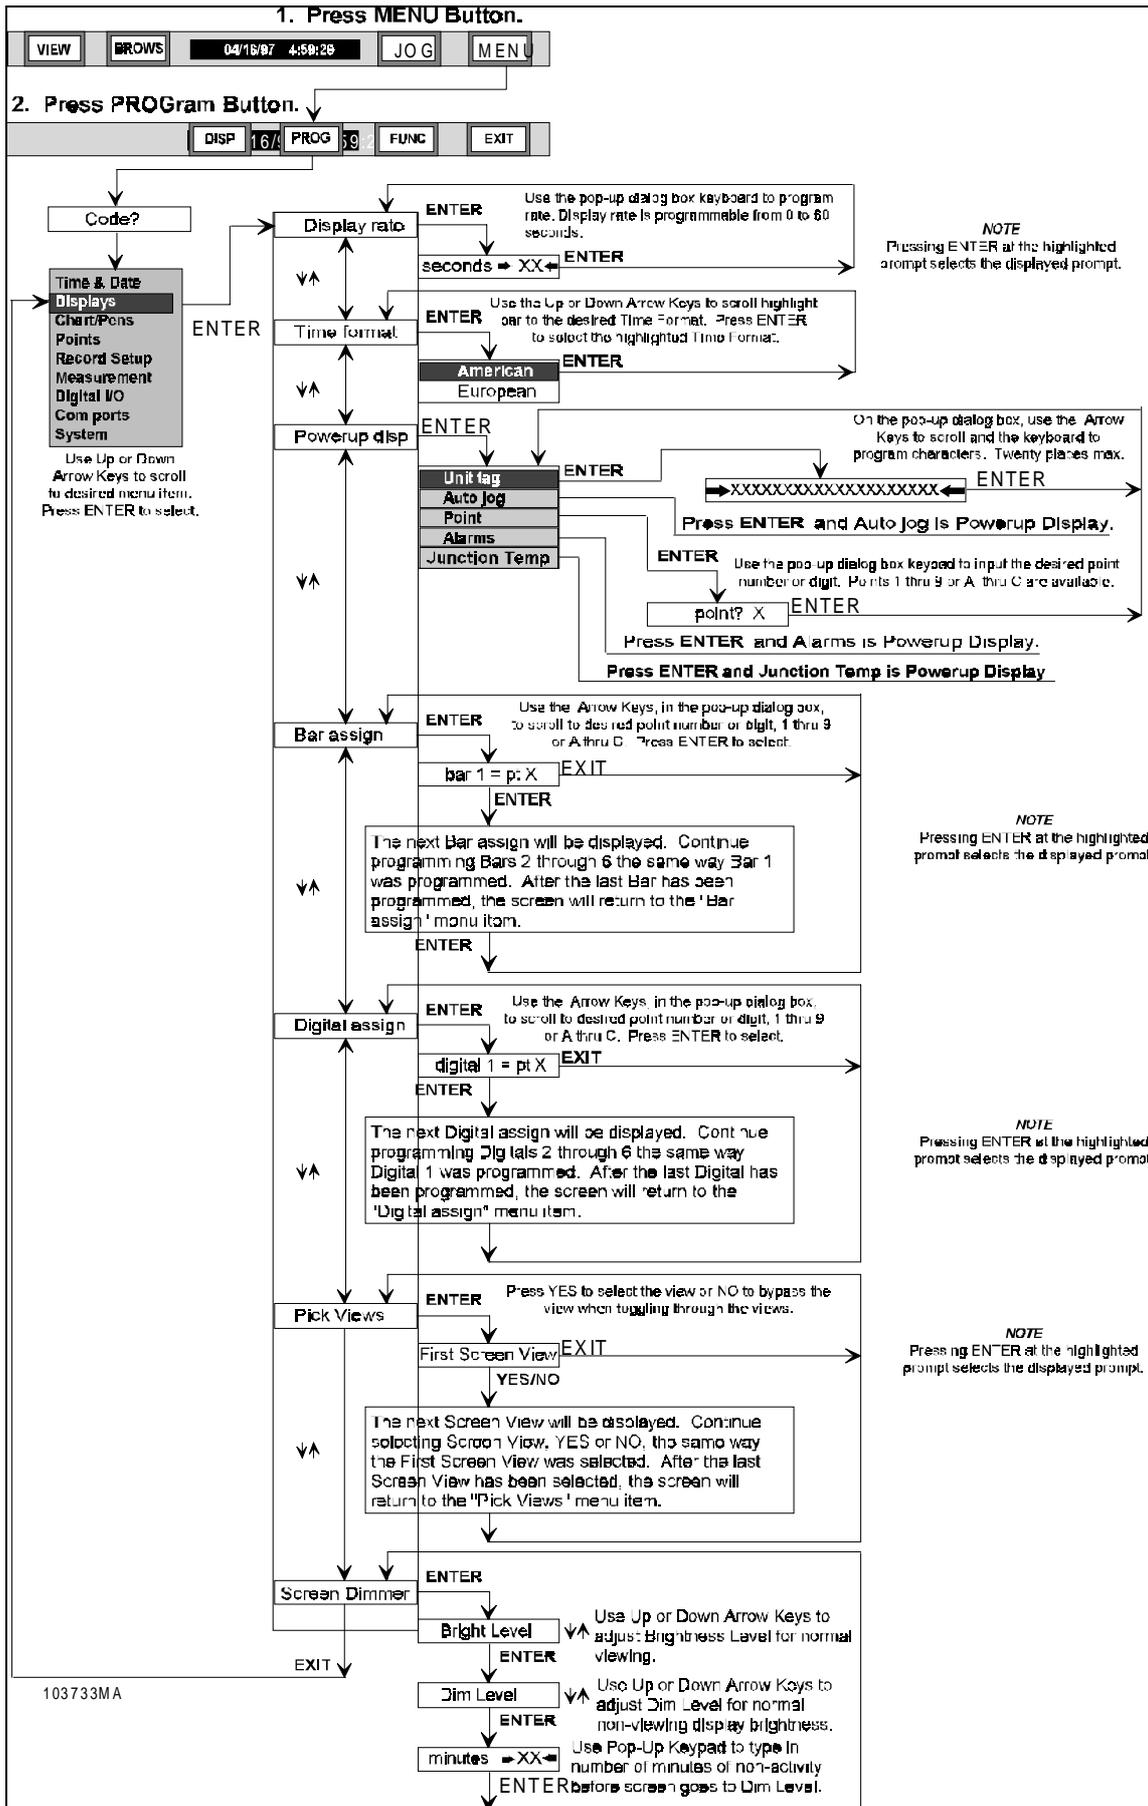

Figure 4-6 Displays Menu Item Programming Flow Chart
The Display Rate determines the time lapse between consecutive display updates in the Status Line. The display rate controls the AUTO JOG function jog rate and the display update of a single point or alarm being displayed. The display rate is programmable from 0 to 60 seconds in one-second intervals. The factory default display rate is one second. Follow the procedures below and the programming steps on the Displays Setup Menu Flow Chart, Figure 4-6, to program the display rate. These programming steps are discussed in menu order.
4.4.5 Powerup Display. The unit display at powerup may be changed to one of five different displays, Unit Tag, Auto jog, Point, Alarms, or Junction Temperature. Refer to Figure 4-6 to see the different powerup displays shown graphically. These different types of displays are as follows:
B. Autojog -The Autojog Power Up display jogs each programmed point, with the point status and value, at the programmed display rate which can be 1 to 60 second intervals, programmed in the Display Program Menu - "Display rate". To program the powerup display to Autojog, follow the instructions below and refer to Figure 4-6.
C. Point -The Point Power Up display allows a programmed point to be displayed as the default Status Window value. The point number programmed, the current value of that point, and the engineering units will be displayed. If the point is in alarm, the value of the point in the display will flash. Follow the instructions below and refer to Fig. 4-6:
D. Alarms -The Alarms Power Up display will jog all points in alarm at the programmed display rate. If all points are in alarm, each point will be displayed at the display rate in the Status Window. If no points are in alarm, the unit Power Up display prompt will be "NO ALARMS". To program the powerup display to Alarms, follow the instructions below and refer to Figure 4-6.
E. Junction Temp - The Junction Temp Power Up display will display the temperature in Degrees F (°F) (Degrees C (°C) with European Time format selected) of the cold junction reference compensator in the Status Window. To program the Powerup Display to Alarms, follow the instructions below and refer to Figure 4-6.
4.4.6 Bar Assign. The Bar Assign menu option allows the user to assign specific points to the individual bars in the bar graph display. To assign points to the bargraph, follow the instructions below and refer to Figure 4-6.
To assign points to the Digital Display Window, follow the instructions below and refer to Figure 4-6.
4.4.8 Pick Views. The Pick Views menu option allows you to select the screen views to toggle through when the view button is pressed. The trend view and the Alarm window are always active. To pick the screen views for use when toggling, follow the instructions below and refer to Figure 4-6.
4.4.9 Screen Dimmer. The Screen Dimmer menu option dims the backlight after a user specified time. The screen saver time out is programmable from 0 to 720 minutes in one minute intervals. To select the normal viewing brightness level, the standby brightness level, and the timeout time period, follow the instructions below and refer to Figure 4-6.